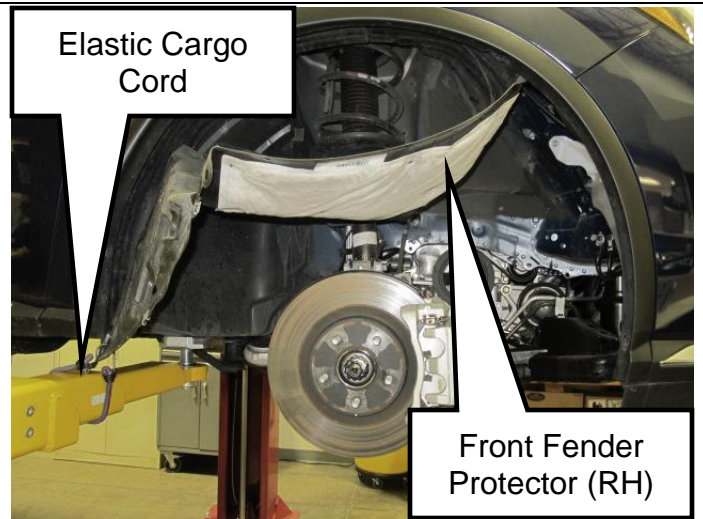

Figure 9
9. Reposition front fender protector (RH) as shown in Figure 9.
- Secure front fender protector (RH) to the lift arm using an elastic cargo cord to temporarily hold it out of the way